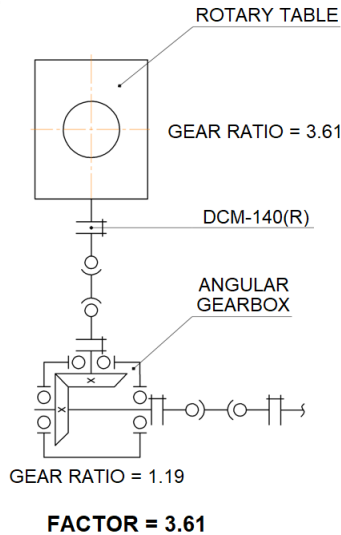
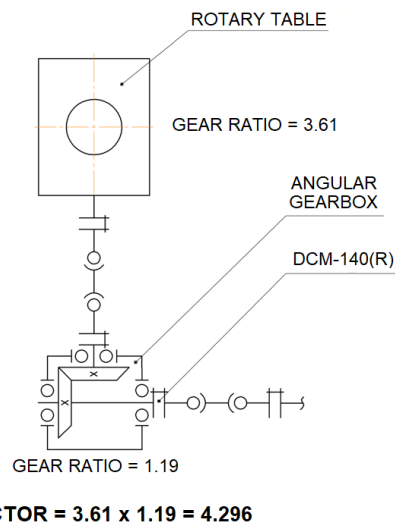

Figure 19. Example of the transmission diagram #1
Figure 20. Example of the transmission diagram #2
- **FACTOR** – rotary gear ratio that is available in the rotary technical specification. As soon as the DCM-140(R) sensor is attached to the rotary flange directly (see Fig. 19), this gear ratio is set in the FACTOR field. In cases where it is not possible to install the DCM-140(R) on the rotary flange and it is mounted on the flange of an angular gearbox or bearing assembly (see Fig. 20), it is necessary to consider all gear ratios of the mechanisms located between the DCM-140(R) and the rotary table. The required FACTOR will be equal to multiplication of all intermediate values of the gear ratios;